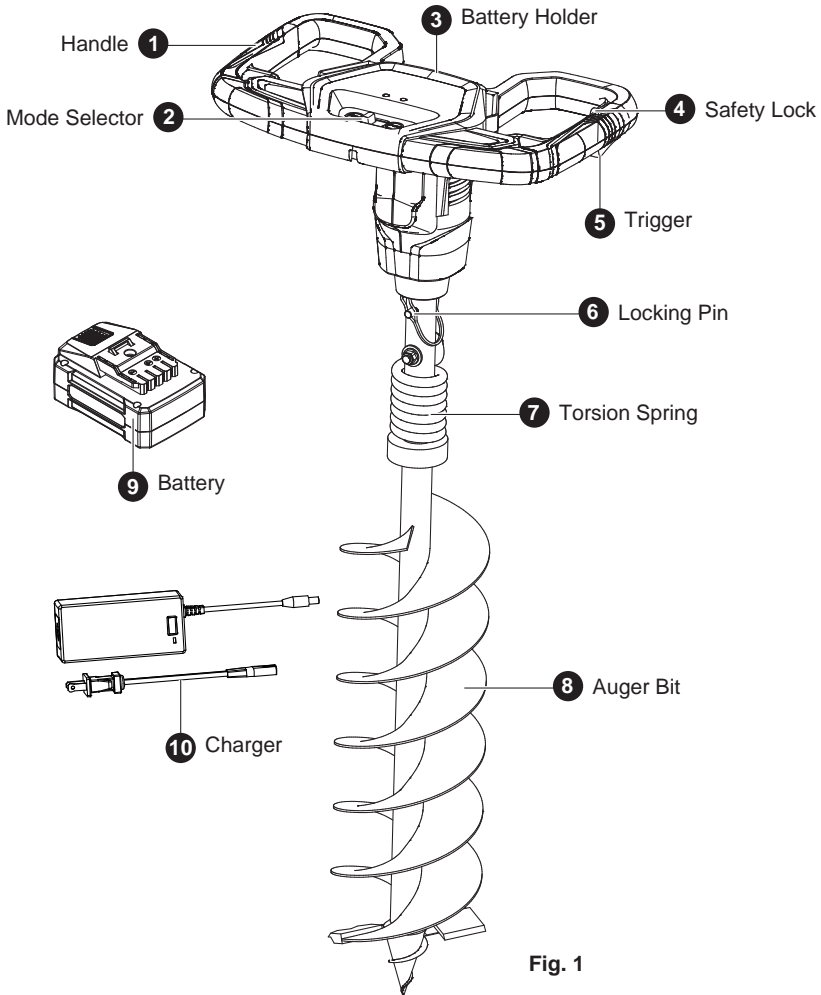

Fig. 1
5. MAIN COMPONENTS (See Fig.1)